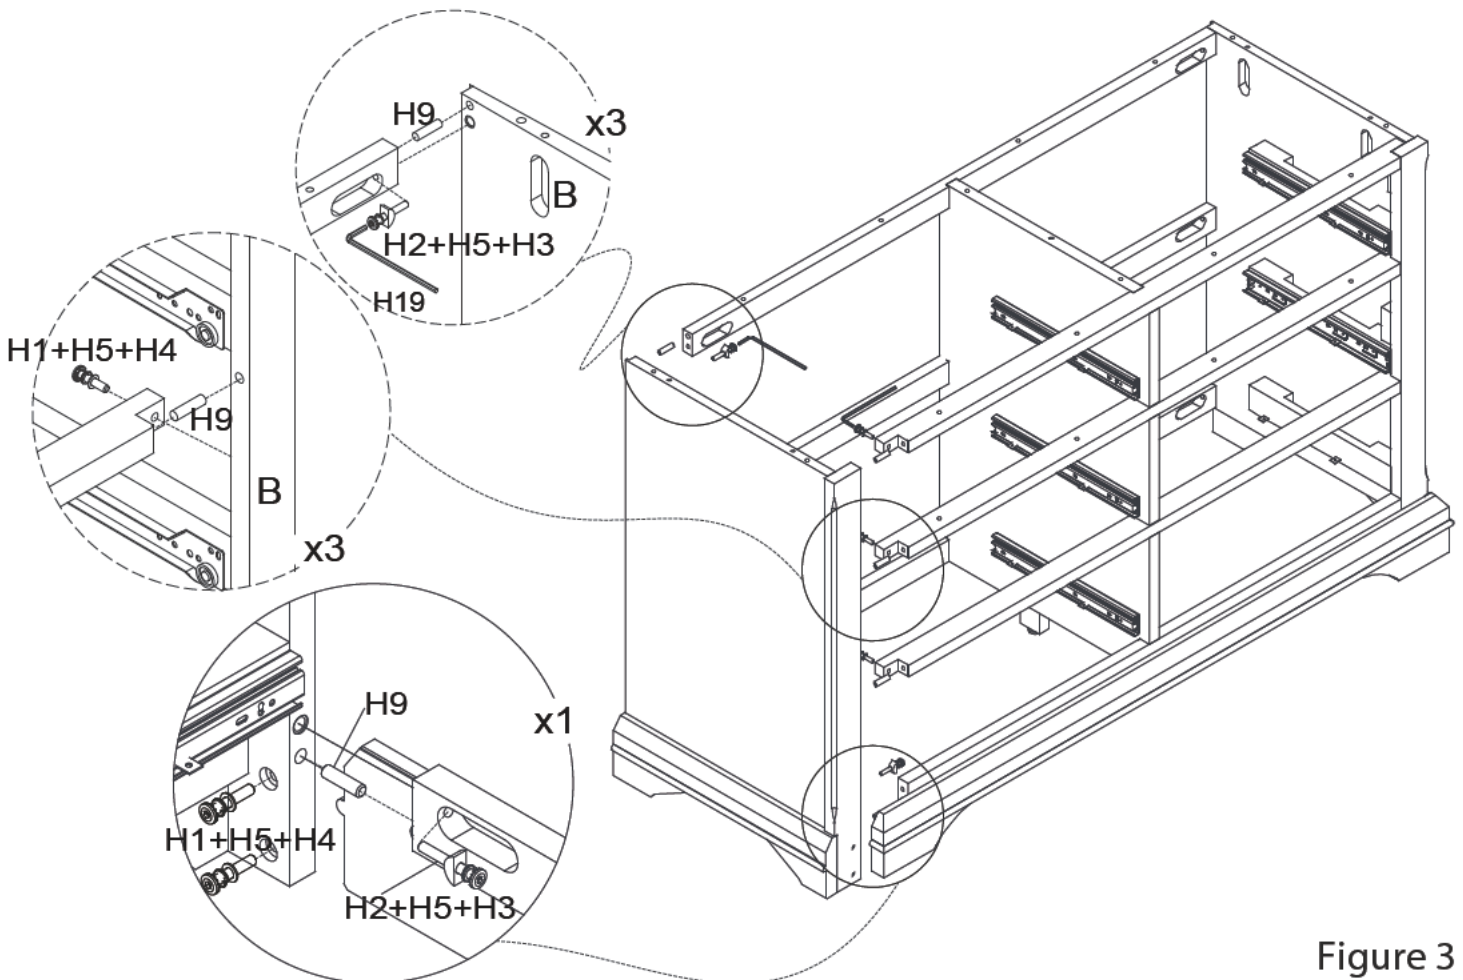

Figure 3
2. Assemble the Left Outer wall (B) as show on figure 3.
3. Secure both sides of Drawer Front (R1) to drawer assembly as Figure3.